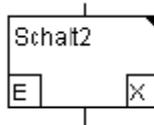

Figure 9-4-3 Example of a Step with Entry and Exit Action
- An example of a step with entry and exit actions is shown in figure 9-4-3.